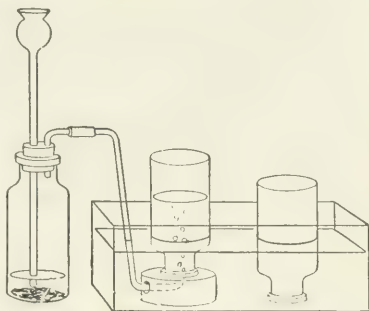

Fig. 25. Generating hydrogen by the action of zinc on dilute sulphuric acid.
**I. Preparation.** A convenient method of preparing hydrogen is furnished by the action of zinc on dilute sulphuric acid. Place about 20 g. of zinc in a bottle provided with a two-hole rubber stopper carrying a thistle tube and a delivery tube. The apparatus is arranged for collecting the gas over water (Fig. 25).